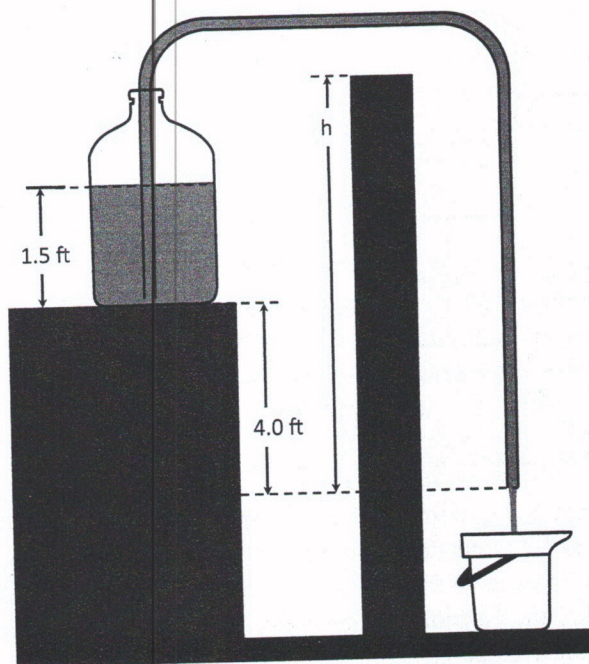

Figure 1.49
23. A gasoline tank is connected to a 25-foot hose (ID = 1.50 cm) as shown in Figure 1.49. The ambient temperature is 38°C. What is the maximum height of the barrier over which the gasoline may be siphoned? You may neglect frictional losses. Note the following physical property data: density of gasoline = 5.6 lbm/gal and vapor pressure at 38°C is 12.3 psia.